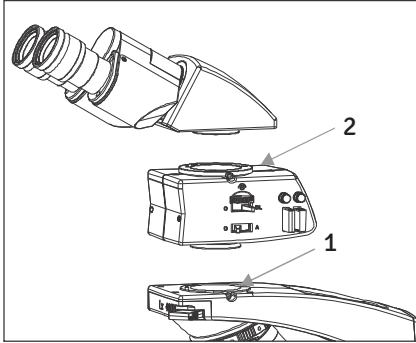

Fig.15
Refer Fig. 15
1. Using allen wrench 3mm (provided), loosen the Head Locking Screw (1) and remove the dust cover cap provided in dovetail cavity as well as on observation head dovetail.
2. Mount the Analyzer by engaging the dovetail provided on the attachment into the dovetail cavity on the microscope arm and tighten the Head Locking Screw (1) see figure 15.
4. Tighten the Head Locking Screw (2) after positioning the Observation head as desired. See figure 15.